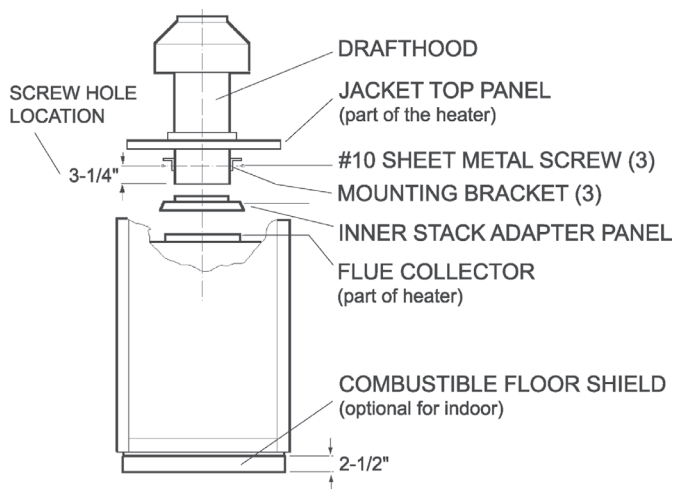

Figure 13. Indoor Installation for Models 0181-0401 and 0182-0400
1. Remove the louvered jacket top by removing four (4) #10 flathead screws.
6. Attach the three (3) mounting brackets to the stack using the screws provided and the holes that are pre-drilled in the stack. **Make sure the brackets are positioned with the flange near the top side of the stack. See Figure 13. Caution must be taken not to over tighten and strip the screw threads.**